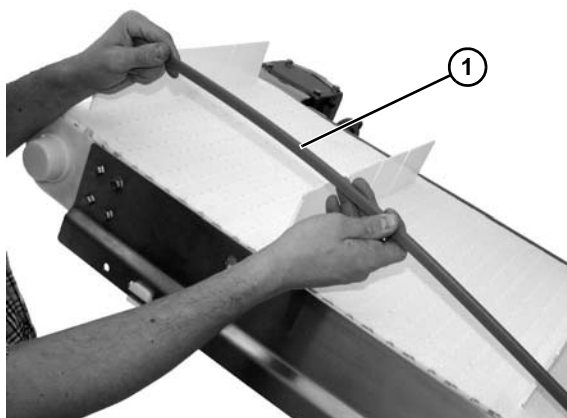

Figure 35
1. Remove worn bar cap (**Figure 35, item 1**) by lifting off of conveyor side rail.